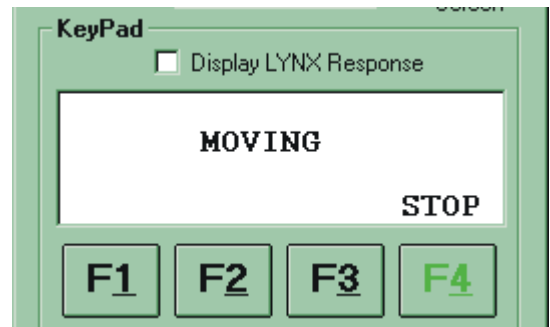

Figure 4.34: Screen 2 Setup
- 2] Enter the text into the display window as shown in Figure 4.34.